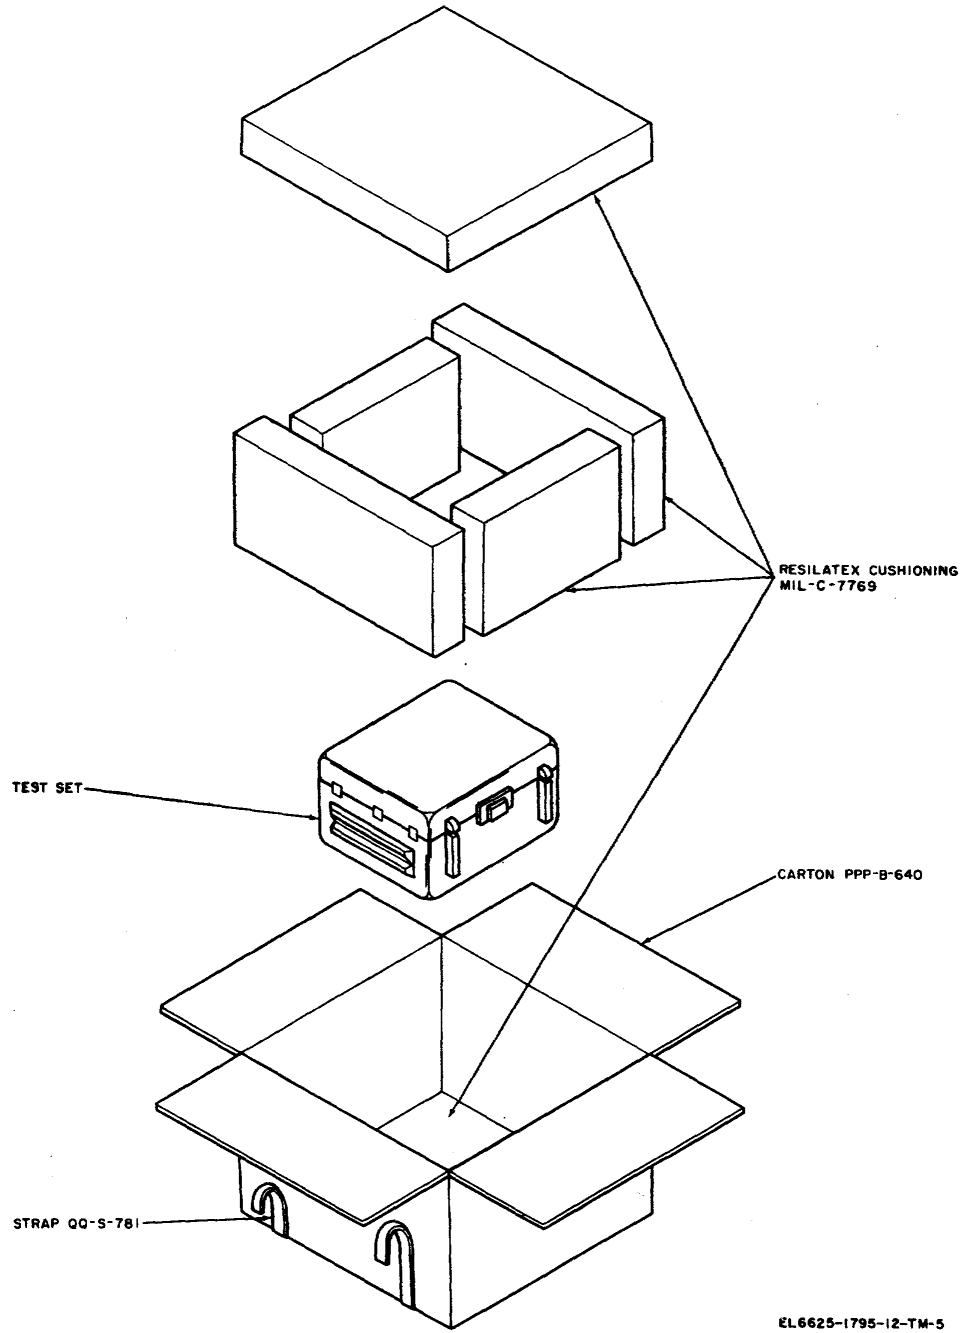

Figure 2-1. Packaging of Test Set, Radar Altimeter Module AN/APM-322.
a. The module test set is packaged in a standard regular service carton. A typical packaging arrangement is shown in figure 2-1.